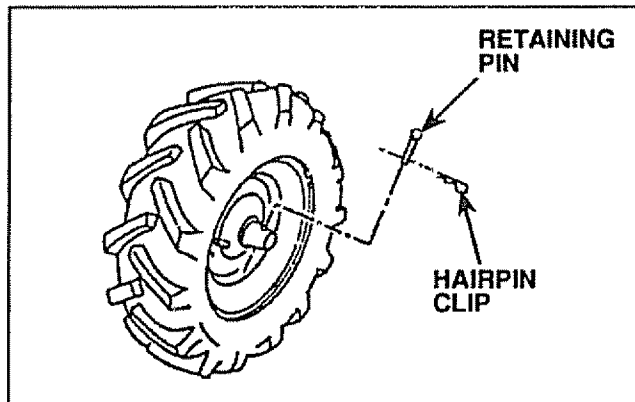

FIGURE 27
- Remove Hairpin Clip and Retaining Pin from Wheel (Fig. 27).